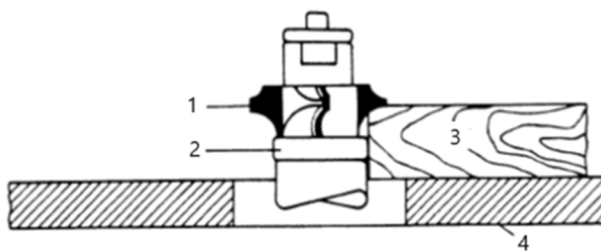

Figure 7
1. When using the collar below the cutter, figure 7, the progress of the cut can be observed at all times. A disadvantage of this method is any accidental lifting of the work will gouge the wood and ruin the